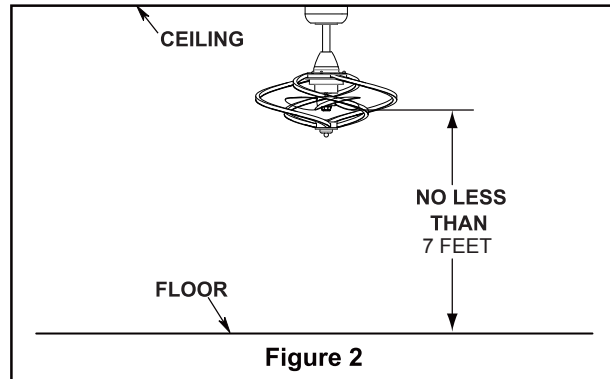
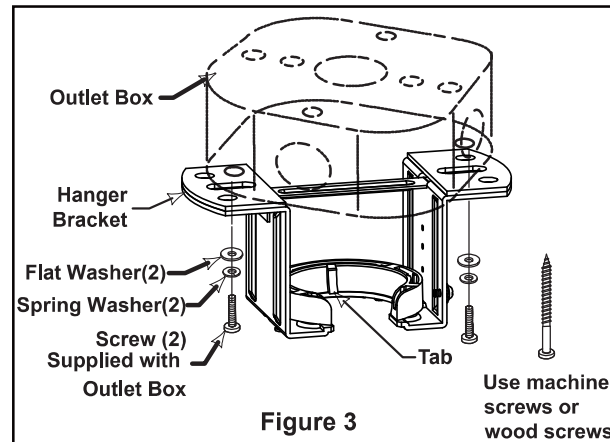

Figure 2
Figure 3
Your new ceiling fan will require a grounded electrical supply line of 120 volts AC, 60 Hz, 15 Amp Circuit. Electrical code requires use of a fan-rated outlet box to support the extra weight and motion associated with a ceiling fan. A fan-rated box will be labeled as such and typically supports up to a 70lbs ceiling fan. Fan-Rated Outlet Boxes vary in ratings and design. Ensure the ratings of your ceiling fan outlet box meet the requirements for the ceiling fan being installed. Figure 1, Figure 2 and Figure 3 depicts different structural configurations that may be used for mounting the outlet box.
Deep-profile use (Figure 2)
Brace Use (Figure 3):
- ☐ Remove the hairpin clip and clevis pin from the bottom of the downrod. Keep the pin and clip for reinstallation in Step 4. (Figure 2)
- ☐ Loosen the two set screws in the motor assembly's downrod support. Route the motor plug wire, and light plug wire through the downrod. (Figure 3)
Ensure the fan is hung with at least 7 feet of clearance from the floor to the ceiling fan. (Figure 2)
Use the screws and washers provided with the outlet box to securely fasten the hanger bracket. (See Figure 3)
- 1. Slide the receiver into the hanger bracket with the flat side up towards the ceiling, as shown in figure 2.
- 2. Use the twist - lock mechanism to secure the screw cover in place. (See Figure 2)
- ☐ Restore electrical power to the outlet box by turning the electricity on at the main fuse box. (Figure 2)
- ☐ To make fan operational, Install two 1.5V AAA batteries. battery not included (If not used for long periods of time, remove battery to prevent damage to transmitter). Store the remote away from excessive heat or humidity. (Figure 3)